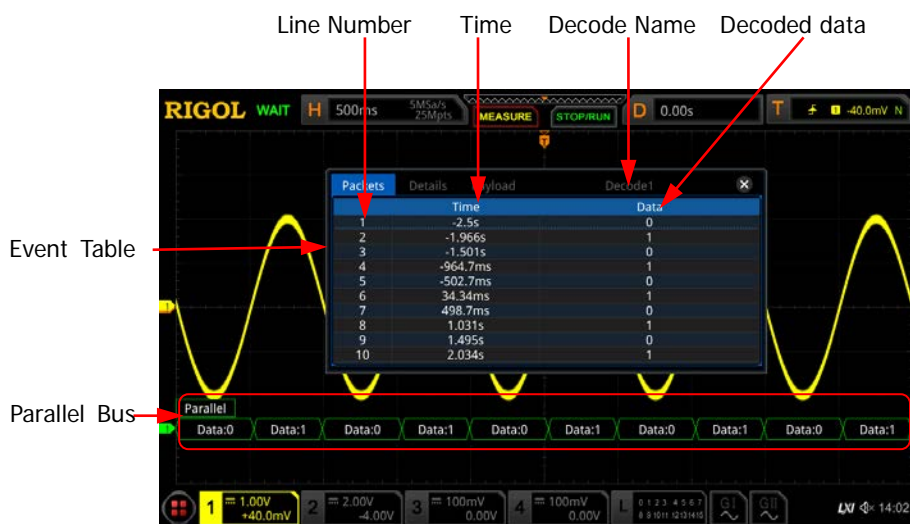

Figure 12-2 Parallel Decoding Event Table
- Open or close the event table: Press **Event Table** continuously to enable or disable the event table. When you enable the event table, the following figure is displayed, as shown in Figure 12-2. You can also enable the touch screen to tap the icon  at the upper-right corner of the table to close the event table. Besides, you can also rotate the multifunction knob  to select a specified line and view the corresponding decoding information.